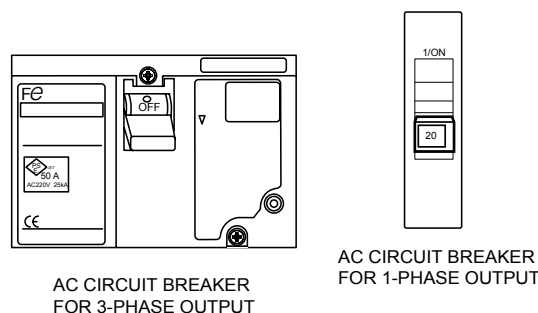

Figure 23. 3-Phase and 1-Phase Circuit Breaker (OFF)
3. **NEVER** start the engine with the 3-phase and 1-phase circuit breakers in the **ON** position. Always place circuit breakers (Figure 23) in the **OFF** position before starting.
1. Place the 3-phase and 1-phase circuit breakers (Figure 23) in the **OFF** position before starting.